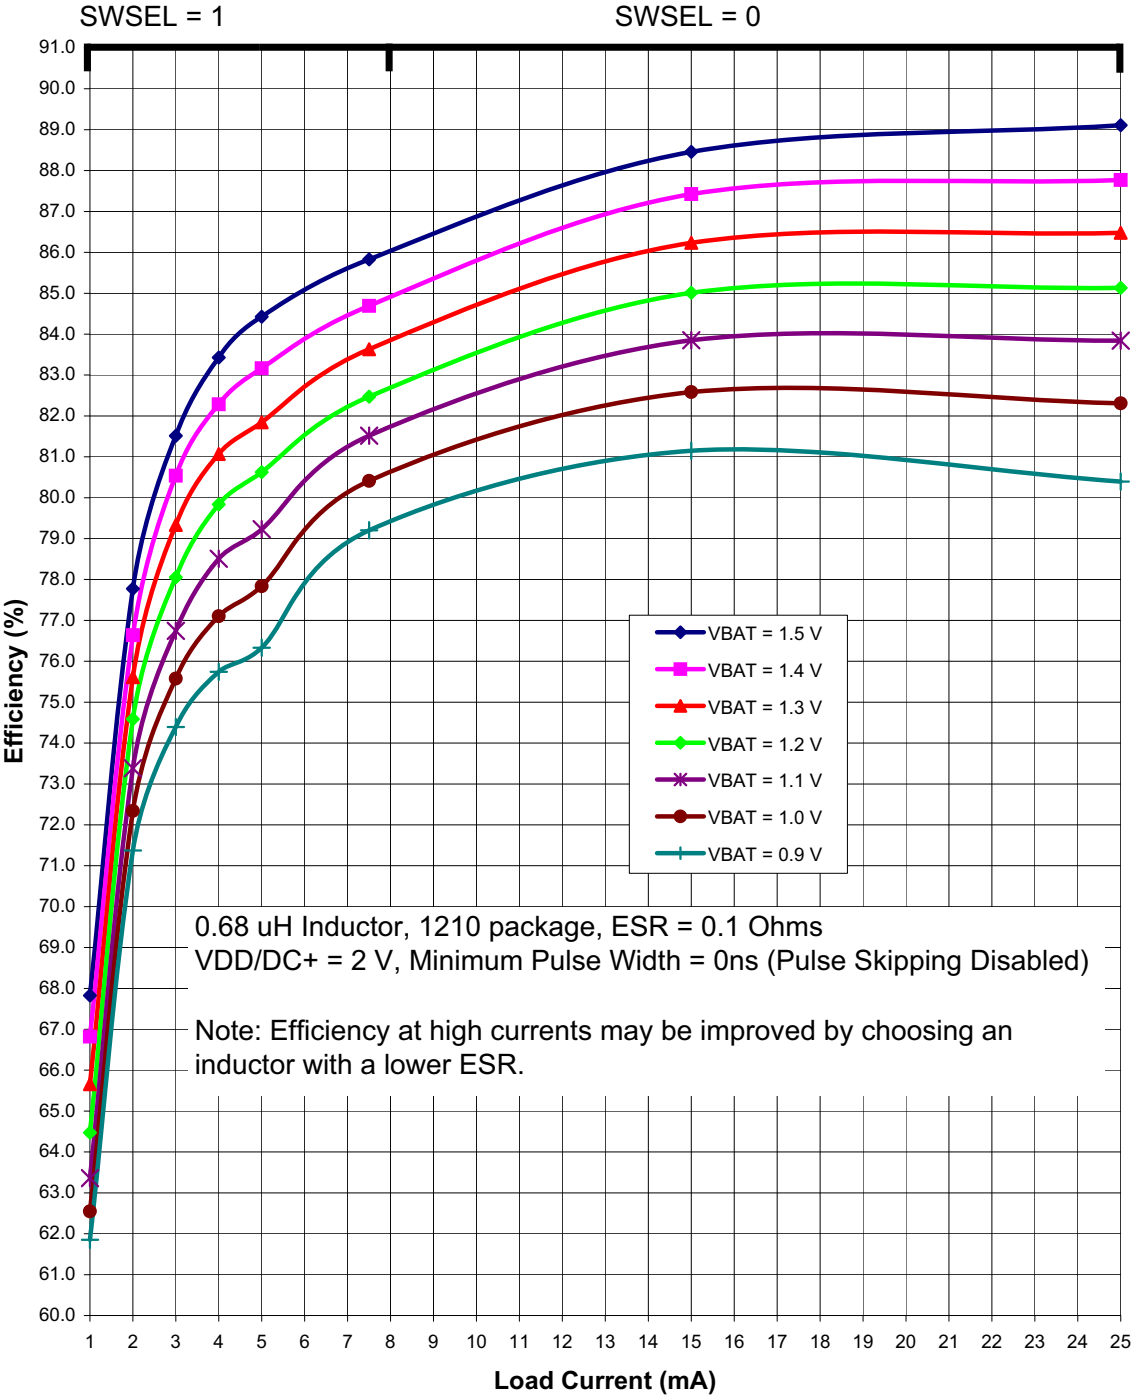
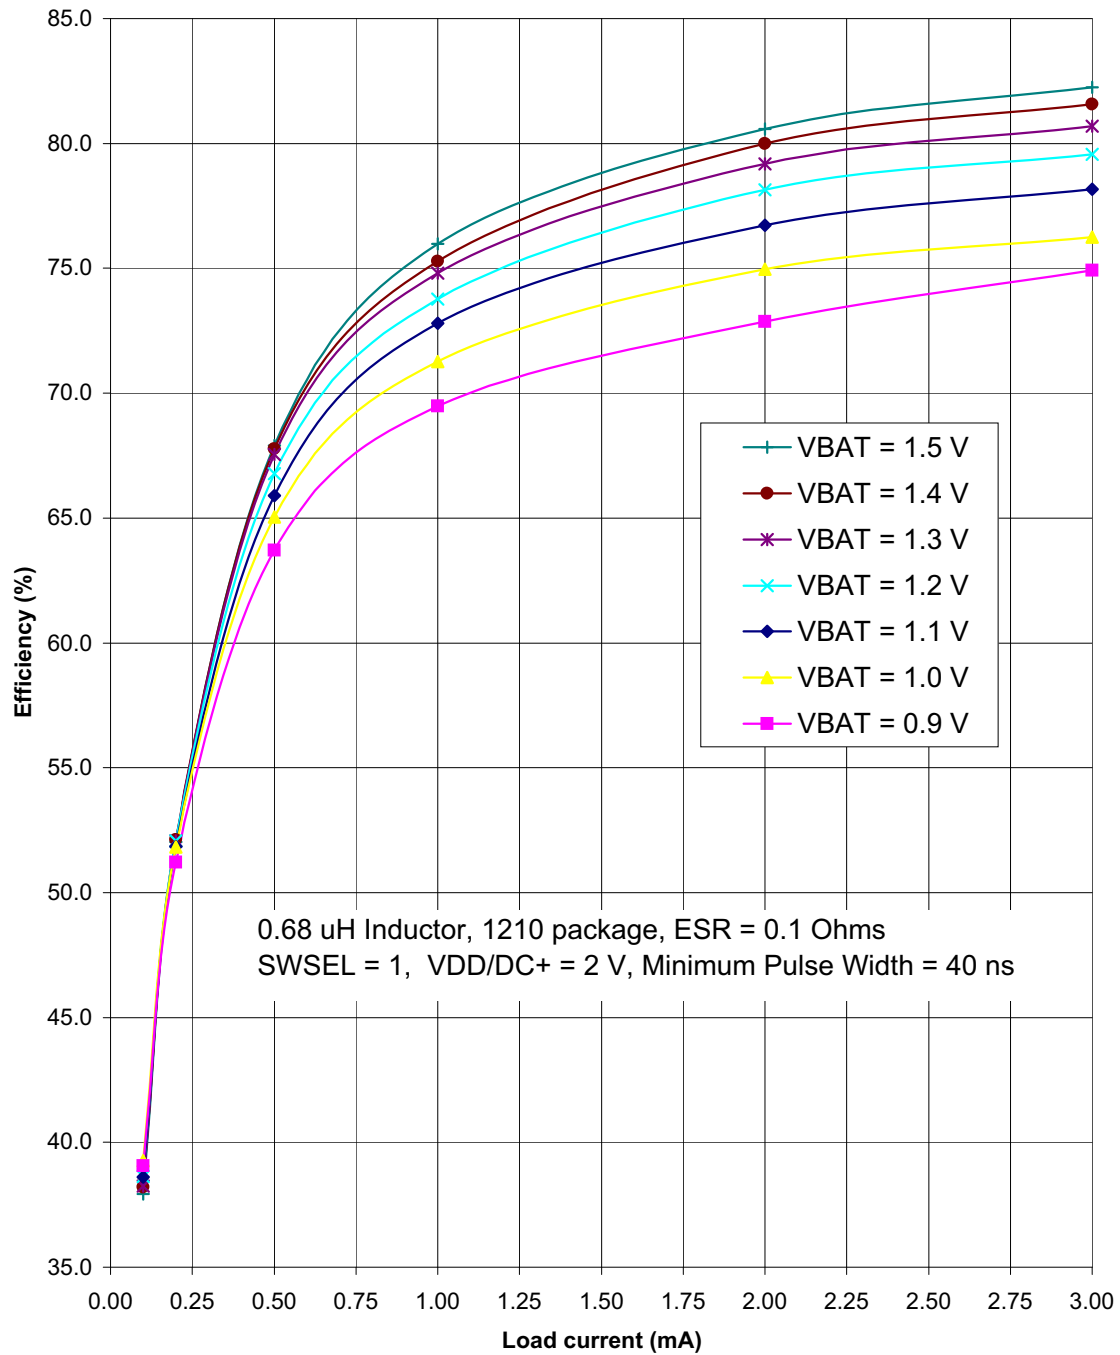

Figure 4.3. Typical DC-DC Converter Efficiency (High Current, VDD/DC+ = 2 V
Figure 4.5. Typical DC-DC Converter Efficiency (Low Current, VDD/DC+ = 2 V)
<p>Notes:</p> <ol style="list-style-type: none"> <li>Based on device characterization data; Not production tested.</li> <li>SYSCLK must be at least 32 kHz to enable debugging.</li> <li>Digital Supply Current depends upon the particular code being executed. The values in this table are obtained with the CPU executing an "sjmp \$" loop, which is the compiled form of a while(1) loop in C. One iteration requires 3 CPU clock cycles, and the flash memory is read on each cycle. The supply current will vary slightly based on the physical location of the sjmp instruction and the number of flash address lines that toggle as a result. In the worst case, current can increase by up to 30% if the sjmp loop straddles a 128-byte flash address boundary (e.g., 0x007F to 0x0080). Real-world code with larger loops and longer linear sequences will have few transitions across the 128-byte address boundaries.</li> <li>Includes oscillator and regulator supply current.</li> <li>IDD can be estimated for frequencies <math>\leq 10</math> MHz by simply multiplying the frequency of interest by the frequency sensitivity number for that range, then adding an offset of 90 <math>\mu</math>A. When using these numbers to estimate <math>I_{DD}</math> for <math>&gt;10</math> MHz, the estimate should be the current at 25 MHz minus the difference in current indicated by the frequency sensitivity number. For example: <math>V_{DD} = 3.0</math> V; <math>F = 20</math> MHz, <math>I_{DD} = 4.1</math> mA – <math>(25 \text{ MHz} - 20 \text{ MHz}) \times 0.120 \text{ mA/MHz} = 3.5</math> mA.</li> <li>The Supply Voltage is the voltage at the VDD_MCU pin, typically 1.8 to 3.6 V (default = 1.9 V). Idle IDD can be estimated by taking the current at 25 MHz minus the difference in current indicated by the frequency sensitivity number. For example: <math>V_{DD} = 3.0</math> V; <math>F = 5</math> MHz, Idle <math>I_{DD} = 2.5</math> mA – <math>(25 \text{ MHz} - 5 \text{ MHz}) \times 0.095 \text{ mA/MHz} = 0.6</math> mA.</li> <li>The supply current specifications in Table 4.2 are for two cell mode. The VBAT current in one-cell mode can be estimated using the following equation:  <math display="block">\text{VBAT Current (one-cell mode)} = \frac{\text{Supply Voltage} \times \text{Supply Current (two-cell mode)}}{\text{DC-DC Converter Efficiency} \times \text{VBAT Voltage}}</math> <p>The VBAT Voltage is the voltage at the VBAT pin, typically 0.9 to 1.8 V.            The Supply Current (two-cell mode) is the data sheet specification for supply current.            The Supply Voltage is the voltage at the VDD/DC+ pin, typically 1.8 to 3.3 V (default = 1.9 V).            The DC-DC Converter Efficiency can be estimated using Figure 4.3–Figure 4.5.</p> </li> <li>The radio peripheral is placed in Shutdown mode.</li> </ol>